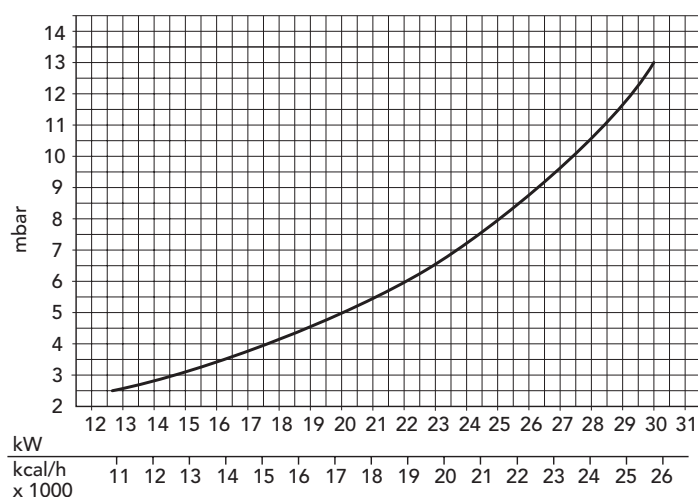

Fig. 4
N.B. - The gas pressures at the burner and gas flows during the central heating phase given in the table refer to nominal boiler output. To reduce this output (where necessary), gas pressure must be reduced until the required output level is reached (see figures 4 and 5).
To adjust boiler heat input (thus also regulating heat output to the central heating water) simply adjust the main burner via the electronic control board (fig. 4 and 5 and see paragraph 5.04 page 23).